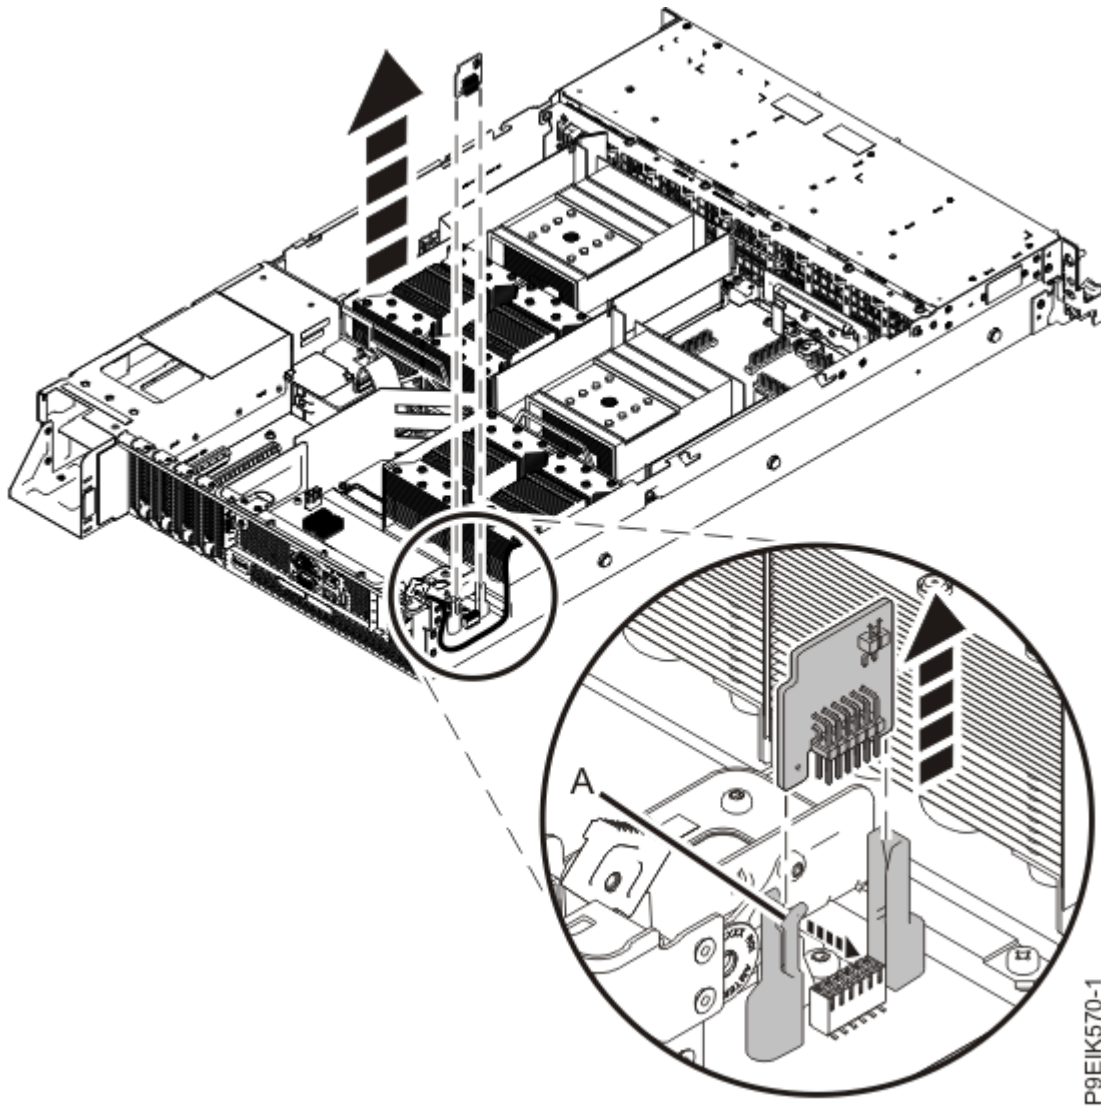

Figure 165. Removing the trusted platform module
2. Pull the lever **(A)** to release the trusted platform module (TPM), and lift the TPM straight up from the system backplane as shown in Figure 165 on page 181.